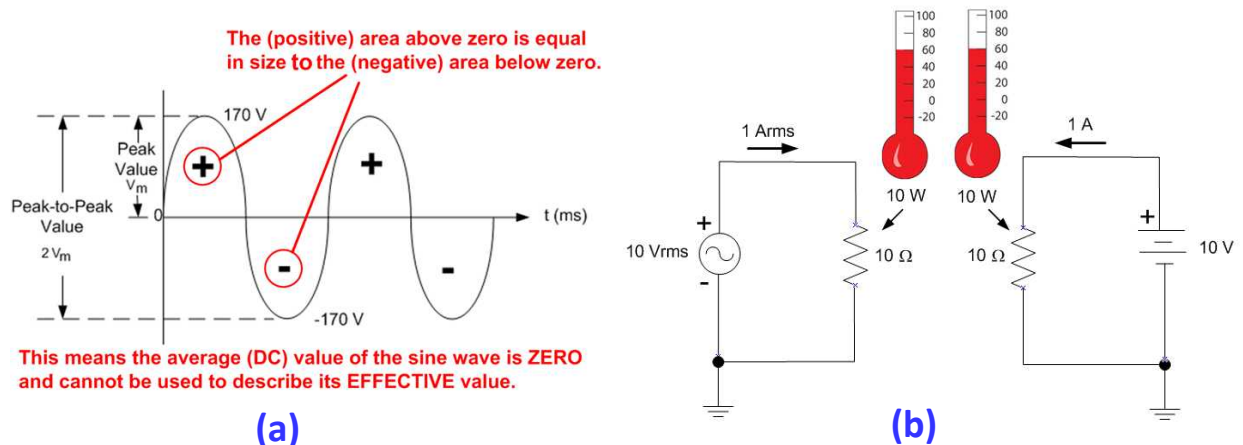
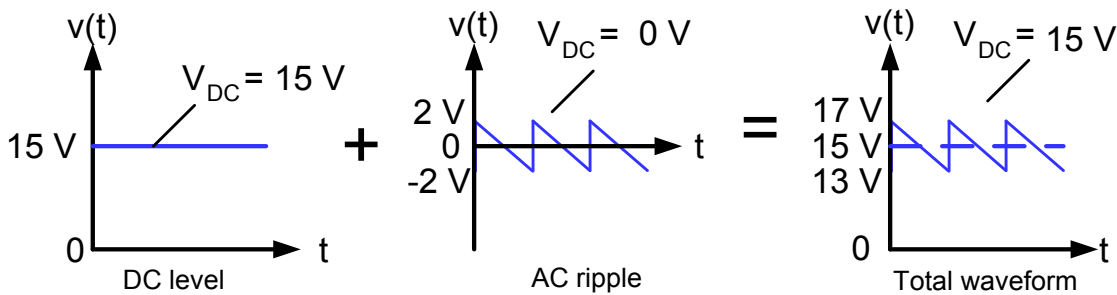

Figure 4-8.
Figure 4-12.
In Fig. 4-8(a) we see ***the average value of the sine wave is zero***. This means its average value is not a good way to describe it. Figure 4-8(b) shows the basic idea used to describe the root mean square (rms) value of a sine wave. ***The AC rms value produces the same power in a resistor as the same size DC. Power dissipation in a resistor results in a temperature rise. This means the rms value has the same effective value.***
In Fig. 4-12 we see the graph of a DC level. Since this voltage is constant, its DC average value for all time is 15 V. Applying either Eq. 4-5 or Eq. 4-7 will produce the same answer of 15 V. As we have seen, both the sine and the triangle (AC) waveforms have an average value of 0 V [see Fig. 4-8(a) and Fig. 4-11(b)]. If these waveforms ride on a DC level, such as 15 V, they will contribute *nothing* to the overall DC average. Consequently, the average value of the total waveform remains 15 V.
As can be observed in Fig. 4-12, the total waveform can be described in two equal ways. We have an AC waveform riding on a DC level, or we have varying DC. For our purposes, we shall use the former description more often.